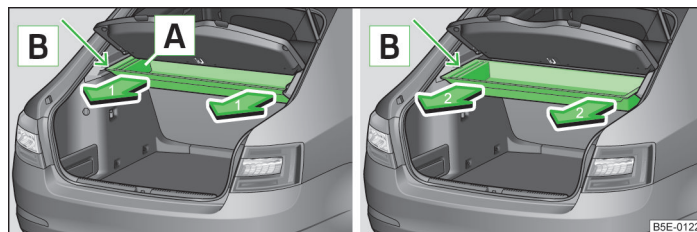

Fig. 91 Storage box: Sliding out/removing
The storage box under the luggage compartment cover can be divided by means of two lateral carrier rails **A** » Fig. 91.
- Remove the box with box hands in the direction of the arrow 1 » Fig. 91 as far as the stop **B**.
- Remove the box with both hands in the direction of the arrow 2 » Fig. 91 after passing the stop **B**.
You can insert/remove the lateral carrier rails when the box has been removed as far as the stop **B** » Fig. 91.